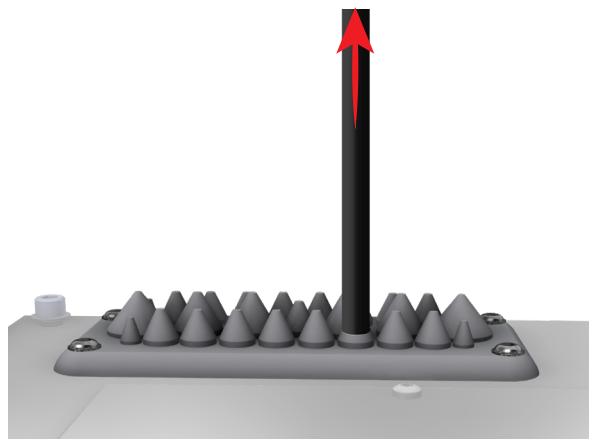

Figure 4.3 Cable glands with cable
2. Push the cable through the guide hole (*Figure 4.3*).